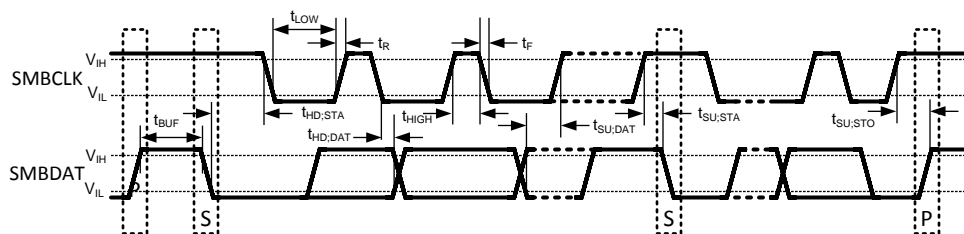

Figure 2. SMBus Communication
- When the input voltage (V_I) at any pin exceeds the power supplies (V_I < GND or V_I > V_{DD}), the current at that pin should be limited to 5 mA. Parasitic components and/or ESD protection circuitry are shown in Figure 2 and Table 1 for the LM95231's pins. Care should be taken not to forward bias the parasitic diode, D1, present on pins: D1+, D2+, D1-, D2-. Doing so by more than 50 mV may corrupt the temperature measurements.